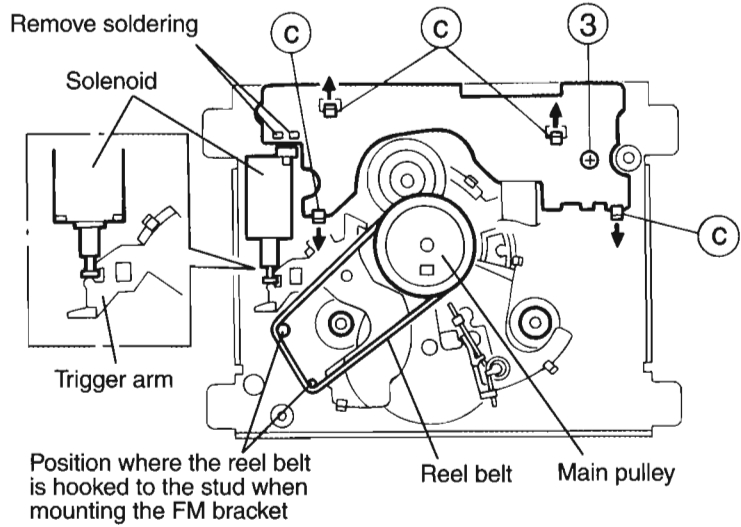

Fig.13
■ Switch PCB removal (See Fig.13)